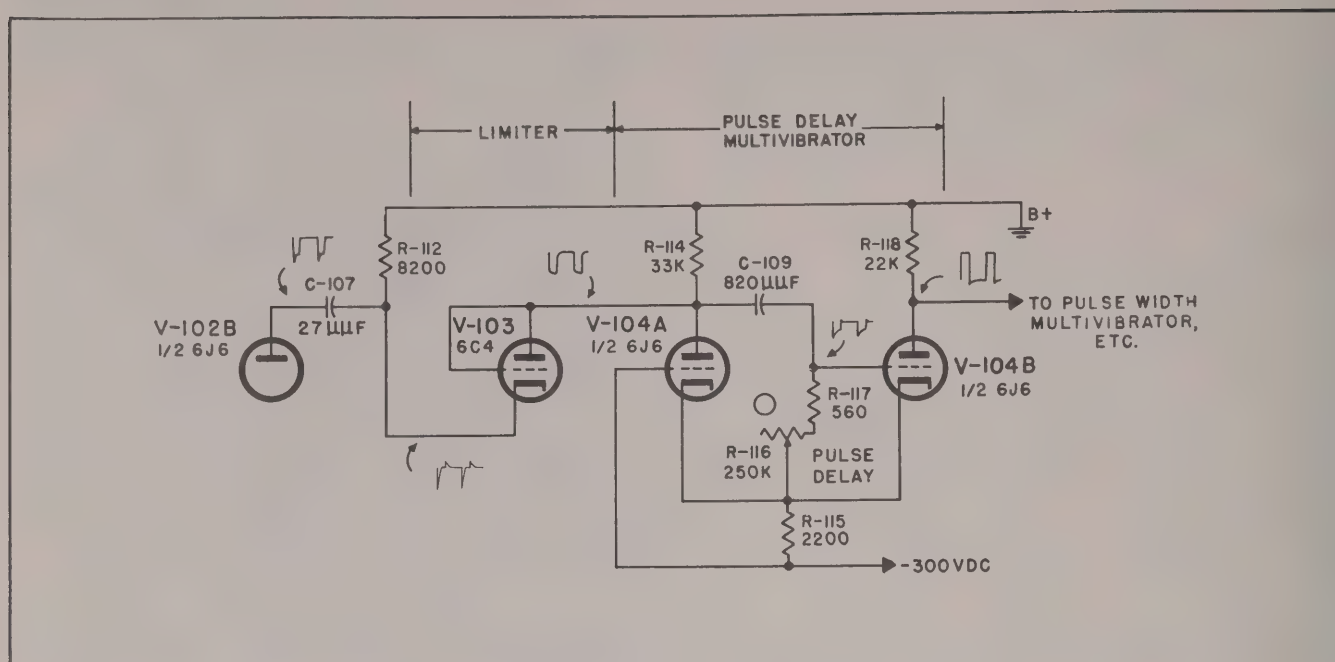

Figure 3-12. Limiter and Delay Multivibrator
c. LIMITER.—V-103 operates as a series diode limiter and is designed so that it will pass negative voltages but is an open circuit for positive voltages (figure 3-12). The circuit has been designed in this way because the output of V-102B is always a negative pulse and by differentiating this pulse a negative trigger is obtained at the leading edge of the pulse and a positive trigger at the trailing edge of the pulse. The negative trigger is passed by the limiter while the positive trigger is blocked. Therefore, a negative trigger is available which is simultaneous with the leading edge of the pulse obtained from V-102B. In turn the pulse obtained from V-102B is approximately simultaneous with the external pulse applied to the instrument, when an external pulse is applied to the instrument.
d. DELAY MULTIVIBRATOR.—The negative trigger passed by the series diode limiter V-103 is applied to V-104, the Delay Multivibrator (also shown in figure 3-12). This multivibrator provides a time delay between the pulse obtained from the Pulse Rate Multivibrator and the pulse which is applied to the rf oscillator